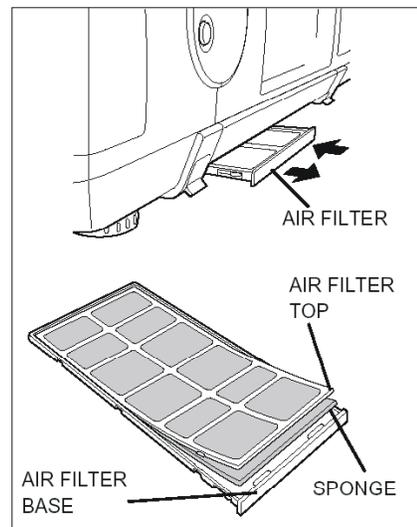

Figure 4. Air Filter Removal
- Remove the air filter from the projector. Refer to Figure 4.
- Pull up the center frame to separate the top of the air filter and sponge from the base. Refer to Figure 4.